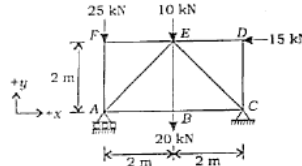

Fig. 5
8. Determine the vertical deflection of joint  $E$  of a truss shown in Fig 5. Take  $A = 2000 \text{ mm}^2$  and  $E = 200 \text{ kN/mm}^2$ .